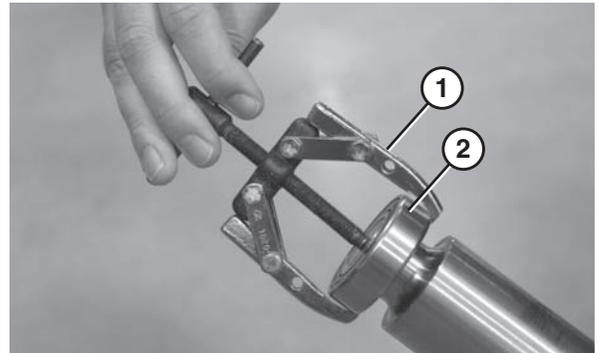

Figure 96
2. Using a bearing removal tool (**Figure 96, item 1**), remove the bearing (**Figure 96, item 2**).